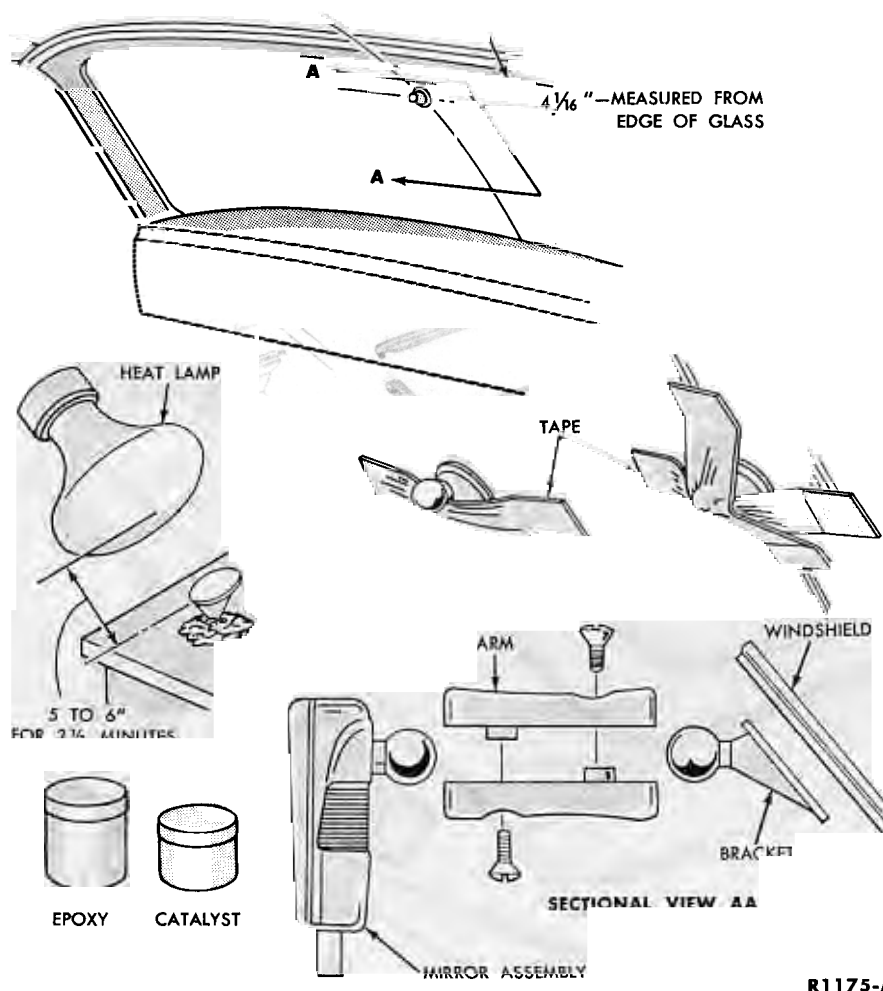

FIG. 25—Bonded Rear View Mirror Installation—Comet, Falcon, Fairlane
outside surface of the windshield (Fig. 25).
3. To mix the resin pour the entire contents of the small catalyst bottle into the large epoxy bottle (Fig. 25).
surface upward in a vise or in a small mound of permagum or any suitable holding material that will support the mounting bracket (Fig. 25). Hold a standard 250 watt infrared lamp about 5 to 6 inches from the mounting surface of the bracket for 2½ minutes.